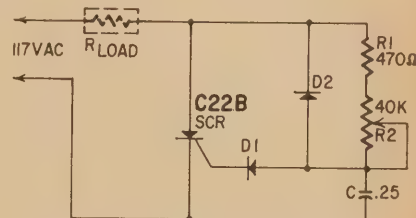

Fig. 5—G-E-developed control for use at 117 volts ac or at 12 or 24 volts ac for model train control.
Although it doesn't have the advantages of the G-E Astrac, the circuit of Fig. 4 has several desirable features for the model enthusiast. The direct phase control can be used as shown, or the circuit of Fig. 5 can be substituted. A 12-volt filament transformer is used in the circuit of Fig. 4, and an auxiliary outlet can be provided for lamps or other HO accessories. The 25-ohm loading resistor R is necessary for good regulation and proper operation. Otherwise, control action at low voltages is not smooth.
For creeping and slow operation of model engines, pulsating dc works better than filtered dc. For this reason, C is removable from the circuit. The output is variable from 2 volts to 12. Fig. 5, a control circuit worked out by G-E engineers, offers better control than the simple phase-control circuit shown in Fig. 4. On the positive half-cycle of SCR
2. In nonoscillator types, 38 kc should be visible. In oscillator types, you should see a waveform similar to that of Fig. 5. (It may not be truly 38 kc, but some frequency close to it.) In the latter case, the waveform may look like Fig. 6. The fuzziness showing above the primary waveform is the small component of synchronizing pilot signal not being locked by the oscilloscope at the fundamental rate of local oscillation.